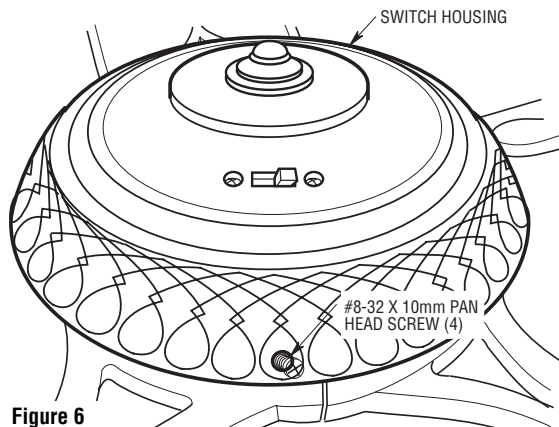

Figure 6
- 9. Secure the switch housing by installing the four #8-32 x 10mm pan head screws (Figure 6).